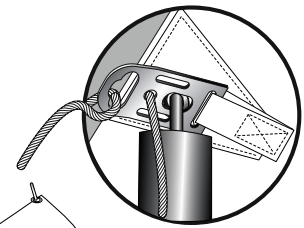

fig.3
5. Install the side poles from the underside of the canopy. Insert pole pins up through both the grommet and the aluminum fitting. See fig.3. Stand the poles up at a 60° angle with their base toward the center of the tent. Set the corner poles first, then the side poles. See fig.4.